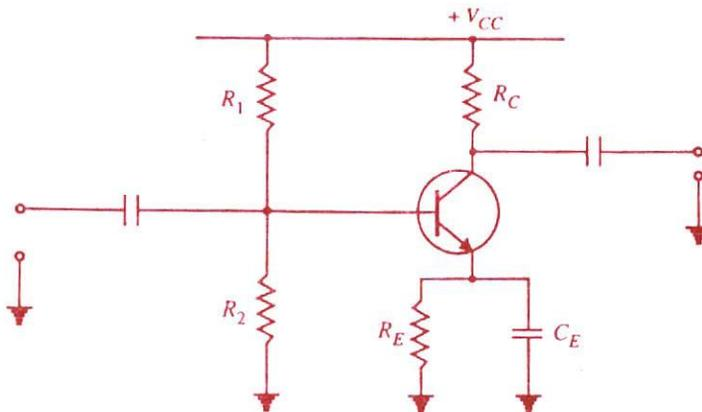
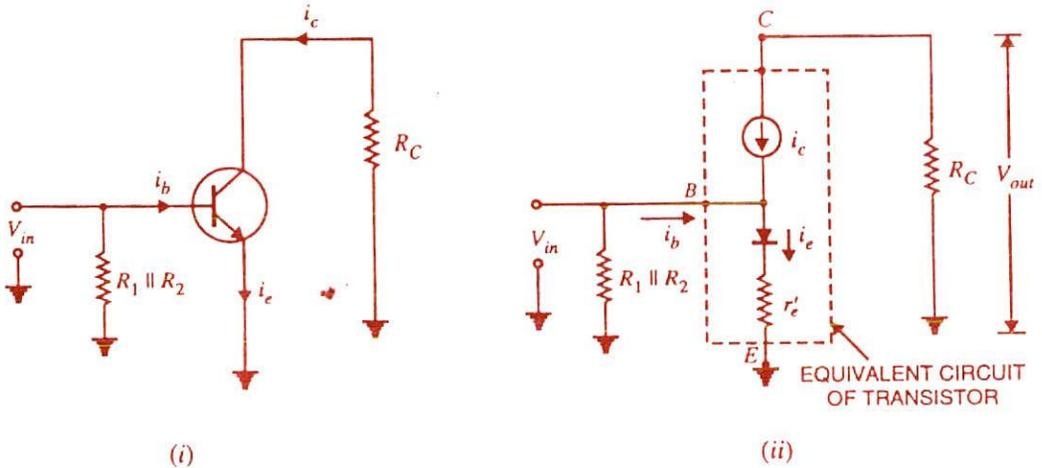

Fig. 12.24
Fig. 12.25
It can be shown that for a common-emitter amplifier, the voltage gain is equal to the ratio of total *ac* collector resistance to total *ac* emitter resistance. Thus for the transistor amplifier shown in Fig. 12.24,
**Derivation.** Fig. 12.24 shows the common emitter amplifier. The ac equivalent circuit of the amplifier is shown in Fig. 12.25. (i). Replacing the transistor by its \*equivalent circuit, we get the circuit shown in Fig. 12.25 (ii). Note that current source is still connected between the collector and base terminals while the diode between the base and emitter terminals. Further, the input current is the base current ( $i_b$ ) while the output current is still  $i_c$ .
**Example 12.12.** In the amplifier circuit shown in Fig. 12.24,  $R_1 = 150 \text{ k}\Omega$ ,  $R_2 = 20 \text{ k}\Omega$ ,  $R_C = 12 \text{ k}\Omega$ ,  $R_E = 2.2 \text{ k}\Omega$ ,  $V_{CC} = 20 \text{ V}$  and  $\beta = 200$ . Determine the voltage gain of the amplifier.